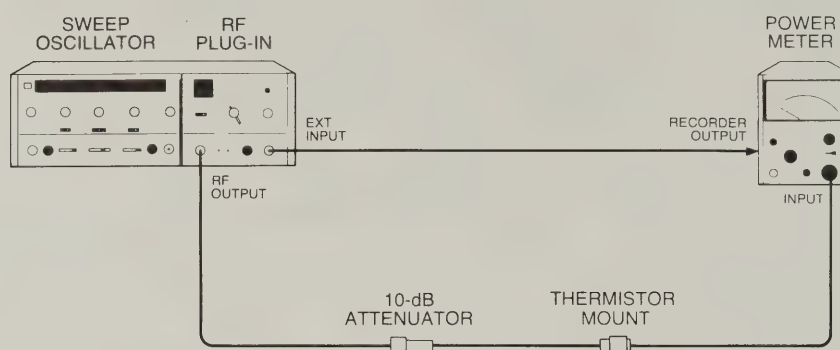

Figure 5-29. Power Meter Leveling Setup
- a. Connect equipment as shown in Figure 5-29.